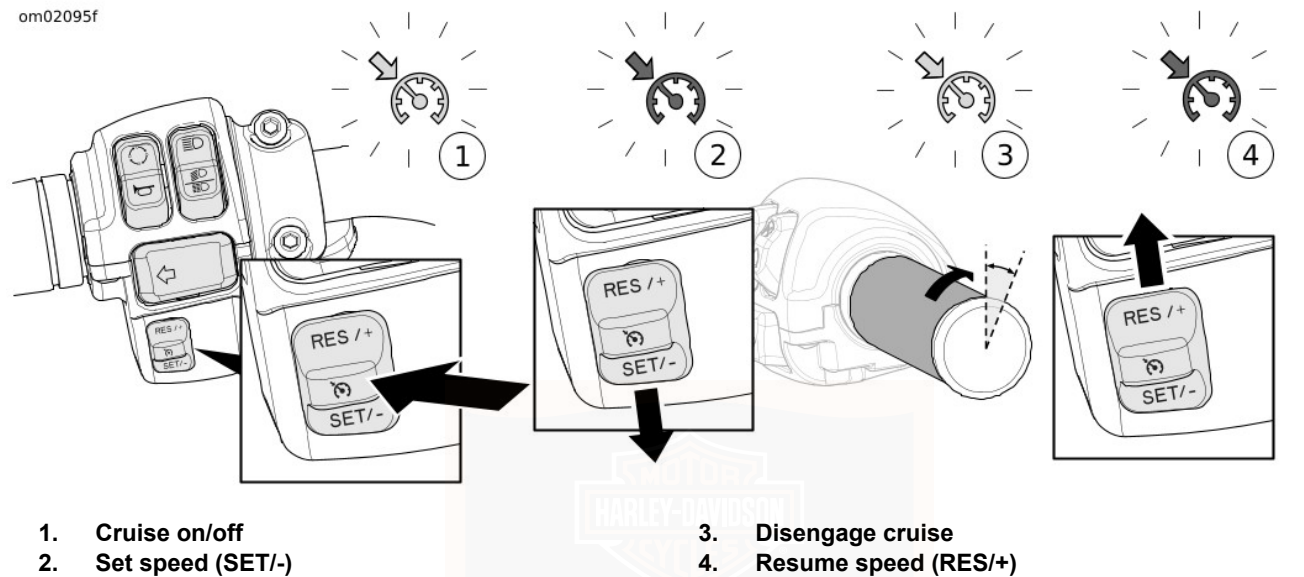

Figure 42. Cruise Control
See Figure 42. Press the CRUISE switch to turn on cruise (1). When on, the cruise icon in the speedometer face glows amber.
See Figure 42. When the motorcycle reaches your intended speed, press the SET/- switch to set the cruise speed (2). The amber cruise icon changes to green.
See Figure 42. To drop out of cruise speed, roll the throttle closed through the roll-off switch (3).
See Figure 42. If cruise has been disengaged yet the cruise indicator is amber, pressing the RES/+ switch resumes cruise (4). The icon glows green. The motorcycle automatically resumes cruise at the set speed.